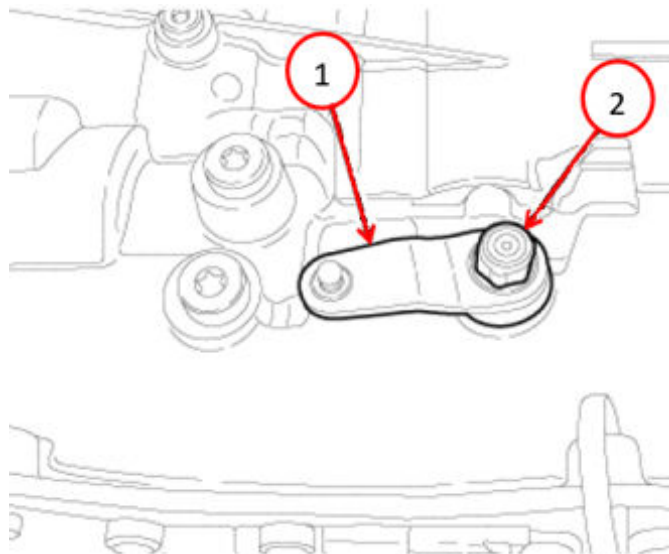

Fig. 49
72. Remove the tie strap and return the manual release lever to the original position Fig. 49.